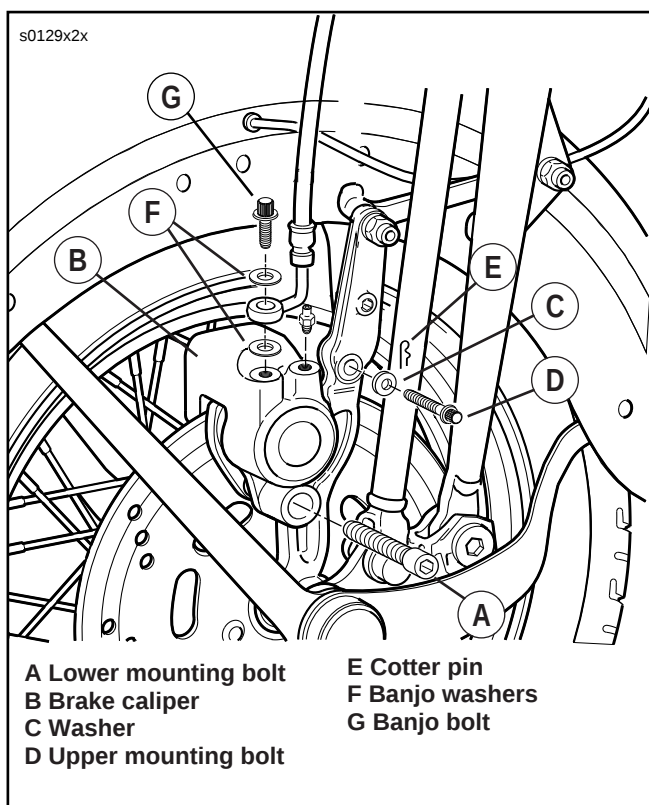

Figure 5
2. See Figure 5. Install brake caliper (B) on brake disc. The brake bracket has a cast-in nub that engages a hole in the mounting plate.